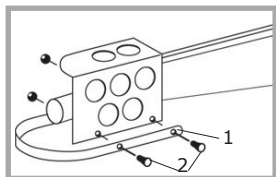

Abb. 1
Before using the log splitter the first time, the guard brackets (1) must be mounted onto the operating arms (see Fig. 1). For transport reasons these are only pre-mounted to the operating arm with one screw (2). Fasten the guard bracket (1) to the operating arm with two screws (2) each (see Fig. 1). Tighten both screws (2) firmly!